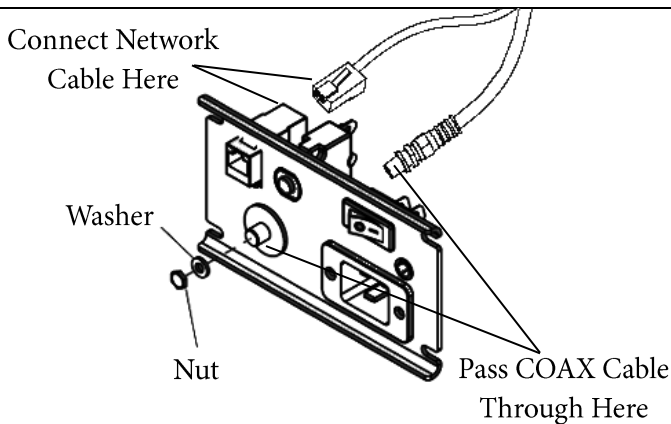

Fig 3-1-2
- c) Connect the network cable to the network jack on the power plate as shown in Fig 3-1-2
- d) Remove nut and washer from front of COAX Cable as shown in figure 3-1-2